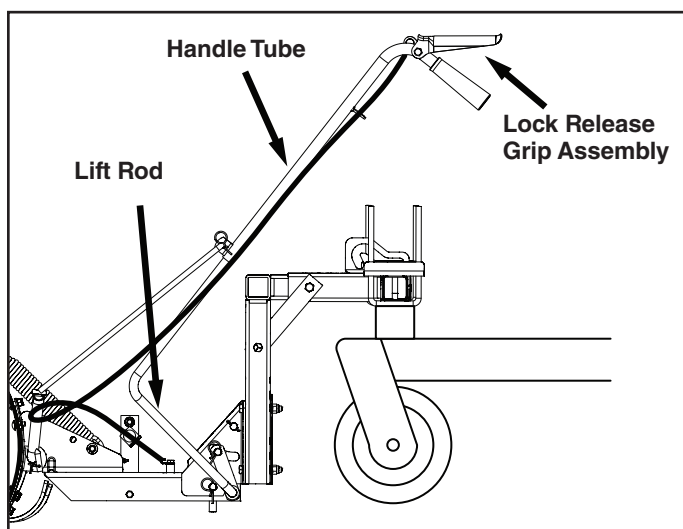

FIGURE 19
TO PIVOT THE BLADE (FIGURE 19)
- Lubricate all pivot points and all points shown in Figure 19 of the Maintenance section.